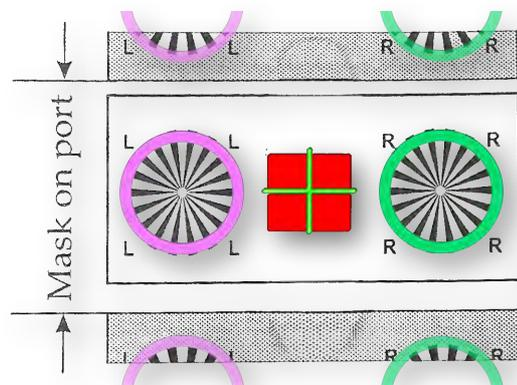

Fig. 8 : Surplus images if baffle is too far in front of the film plane.
- Due to the construction of the film guide the baffle cannot be placed close enough to the film and thus it cannot secure a sufficient shielding. In this case you have to mask the dark surplus images at the projection window by focusing image onto the pane, in order to determine the exact position of the upper and lower mask (fig. 8).